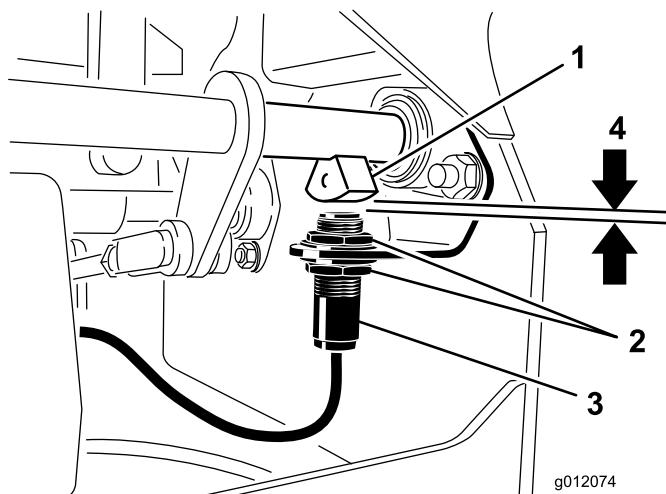

Figure 55
4. Move the switch up or down on the bracket until the distance between the brake shaft sensor and the switch plunger is 3.9 mm (5/32 inch) (Figure 55).